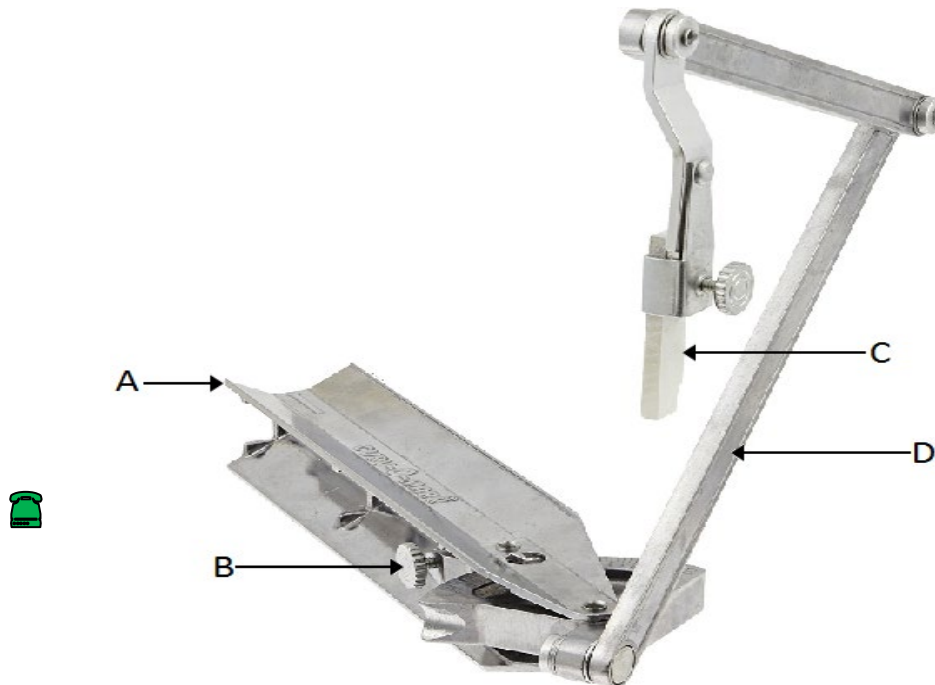

FIGURE 1
4.1 FIGURE 1 below shows an outside view of a pipe contour marker.